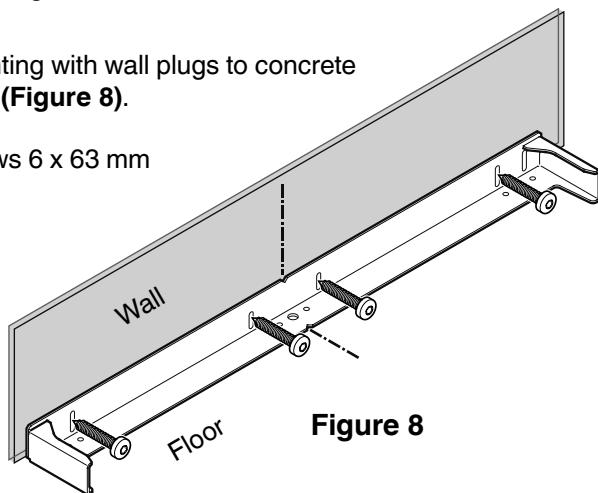

Figure 8
Mounting the Anti Tipping Device - Figures 8 - 11
2. Depending on the constitution of the floor and wall, use any possible mounting option as shown in **Figures 8 - 11**.
Mounting with wall plugs to concrete walls (**Figure 8**).